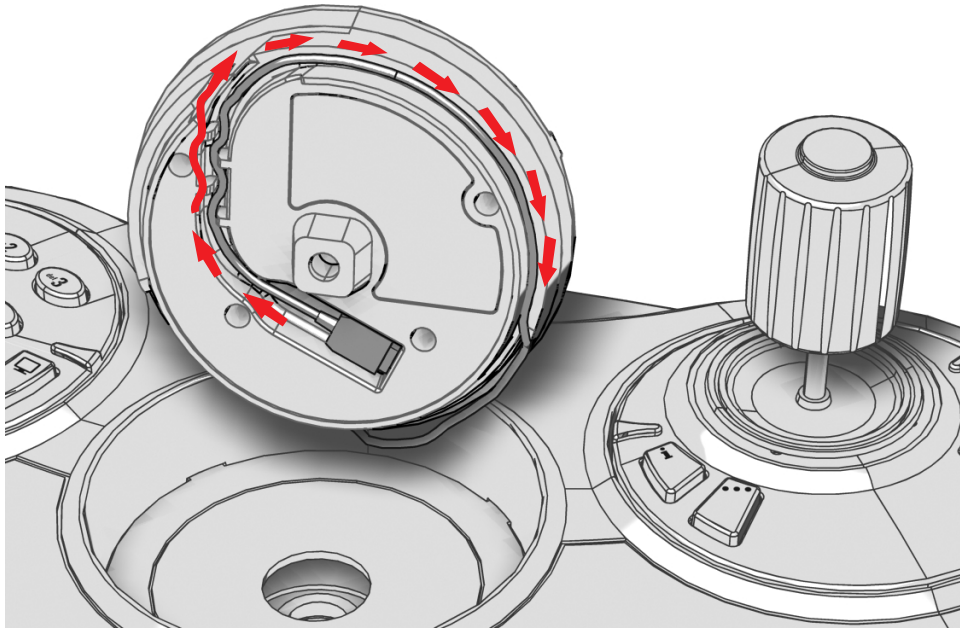

Figure 5. Installing the Modules
3. Refer to Figure 5. Select a module. Each receptacle on the base has an attached USB cable. Turn the module upside down. Plug the USB connector cable into the USB port on the bottom of the module. Thread the USB connector cable through the plastic strain reliefs on the module to hold the cable in place.
4. Refer to Figure 5. Turn the module upright so its top faces the rear of the base. (The rear of the base is the side with the connectors.) Wind the cable clockwise around the base of the module, making sure to tuck any extra cable back into the hole in the receptacle.